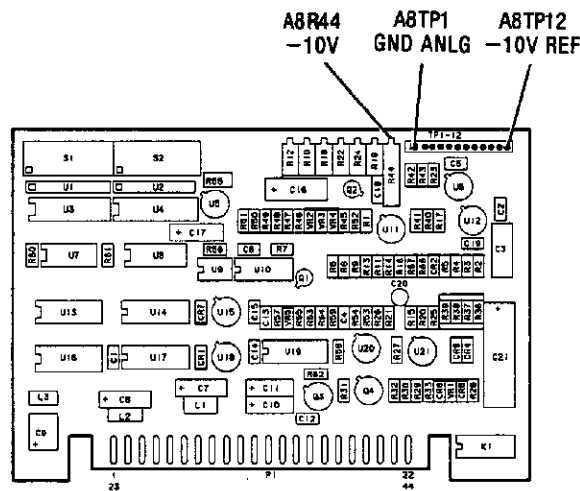

Figure 5-2. -10V Reference Adjustment Locations
2. Adjust A8R44 (-10V) for a DVM reading of -10 ± 0.001 Vdc. Refer to Figure 5-2 for the locations of A8R44 and A8TP12.